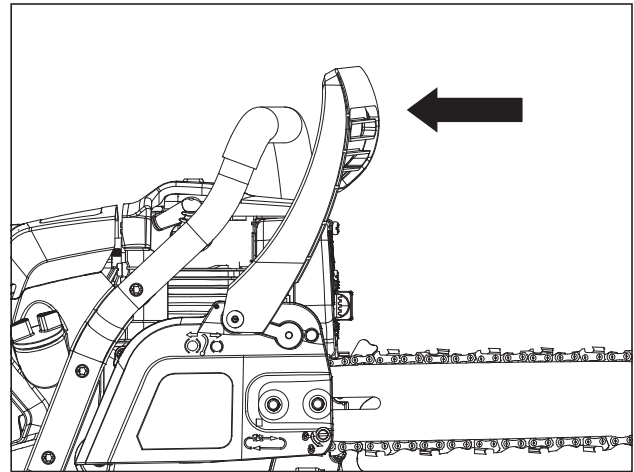

Fig. 6
1. Carefully pull the chain brake back toward the front handle (Fig6).